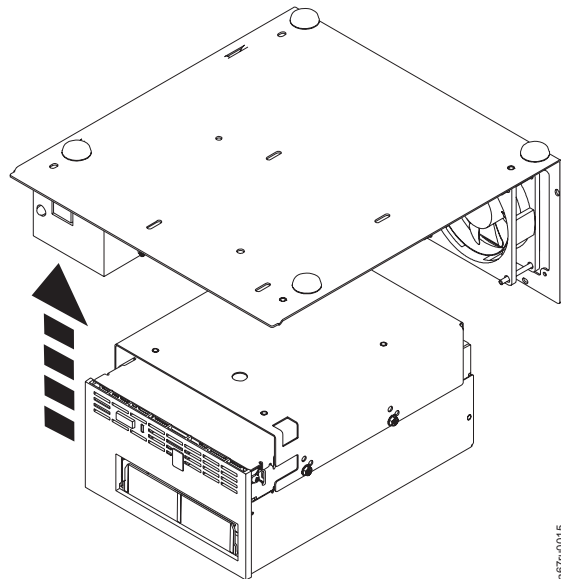

Figure F-5. Lifting the chassis from the internal drive
6. Lift the chassis off the drive as shown in Figure F-5.